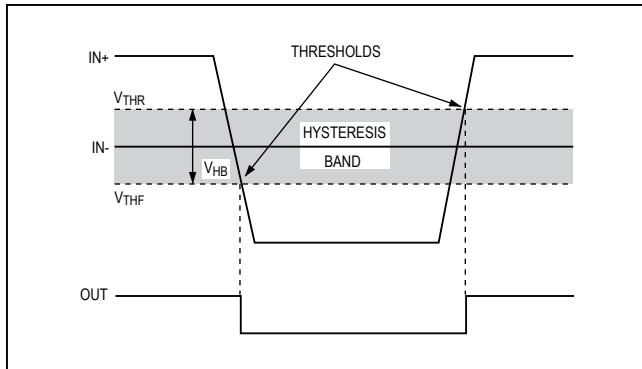

Figure 2. Threshold Hysteresis Band
**Note 3:** The hysteresis-related trip points are defined as the edges of the hysteresis band, measured with respect to the center of the band (i.e., VOS) (Figure 2).
The hysteresis in a comparator creates two trip points: one for the rising input voltage (VTHR) and one for the falling input voltage (VTHF) (Figure 2). The difference between the trip points is the hysteresis (VHB). When the comparator’s input voltages are equal, the hysteresis
effectively causes one comparator input to move quickly past the other, thus taking the input out of the region where oscillation occurs. Figure 2 illustrates the case in which IN- has a fixed voltage applied, and IN+ is varied. If the inputs were reversed, the figure would be the same, except with an inverted output.